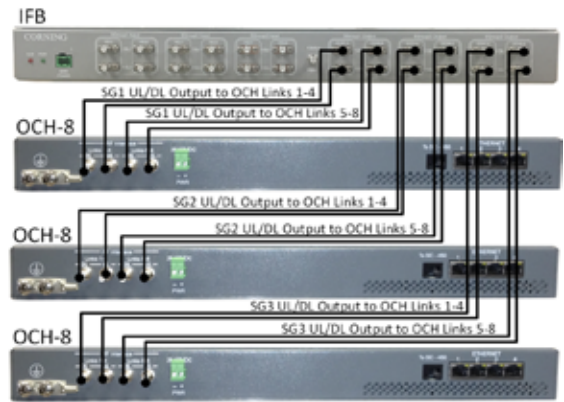

Figure 3. IFB-to-OCH Connections
Step 5: Connect a pair of QMA/QMA cables from each of the service group UL and DL output ports to the OCH optical module UL and DL link ports. IFB supports connections to two optical modules per service group (see Figure 3).